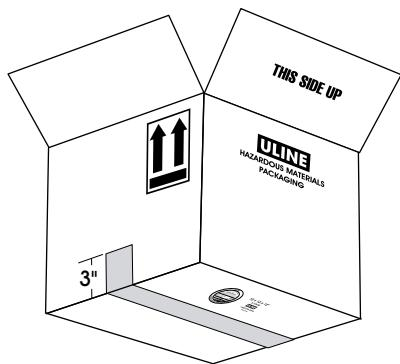

Figure 2
2. Seal bottom of carton down the center seam with one strip of 2" wide (2.6 mil) polypropylene tape (Uline Model # S-14564). The tape must extend 3" over each end of the carton. (See Figure 2)